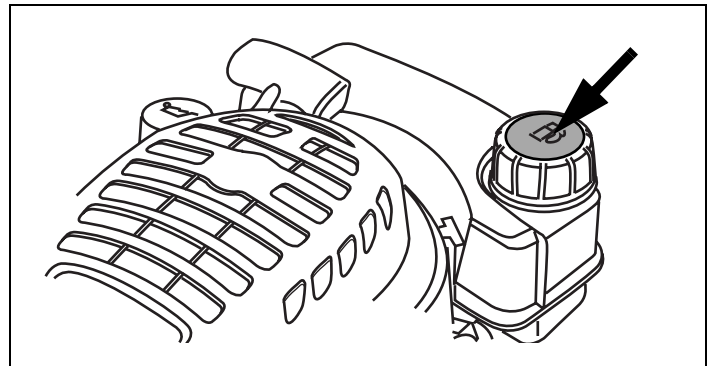

Figure 39. Gas Cap
2. Be sure gas cap is on and tightened securely. See Figure 39.